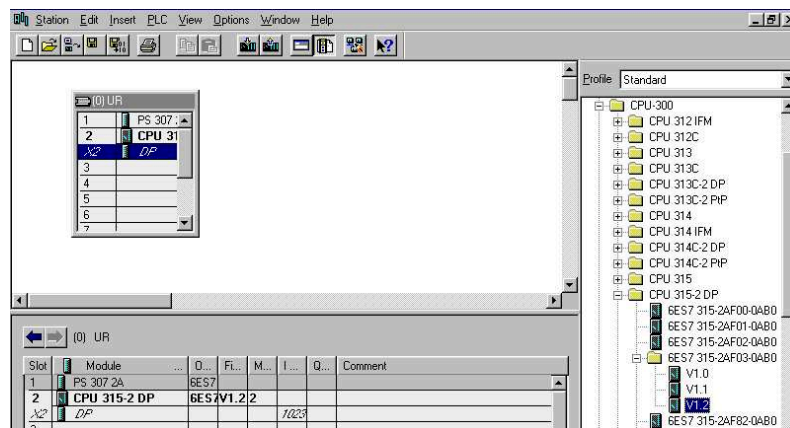

Figure 6-7 Select type of CPU
12. Select the type of CPU (see Figure 6-7 on page 52).